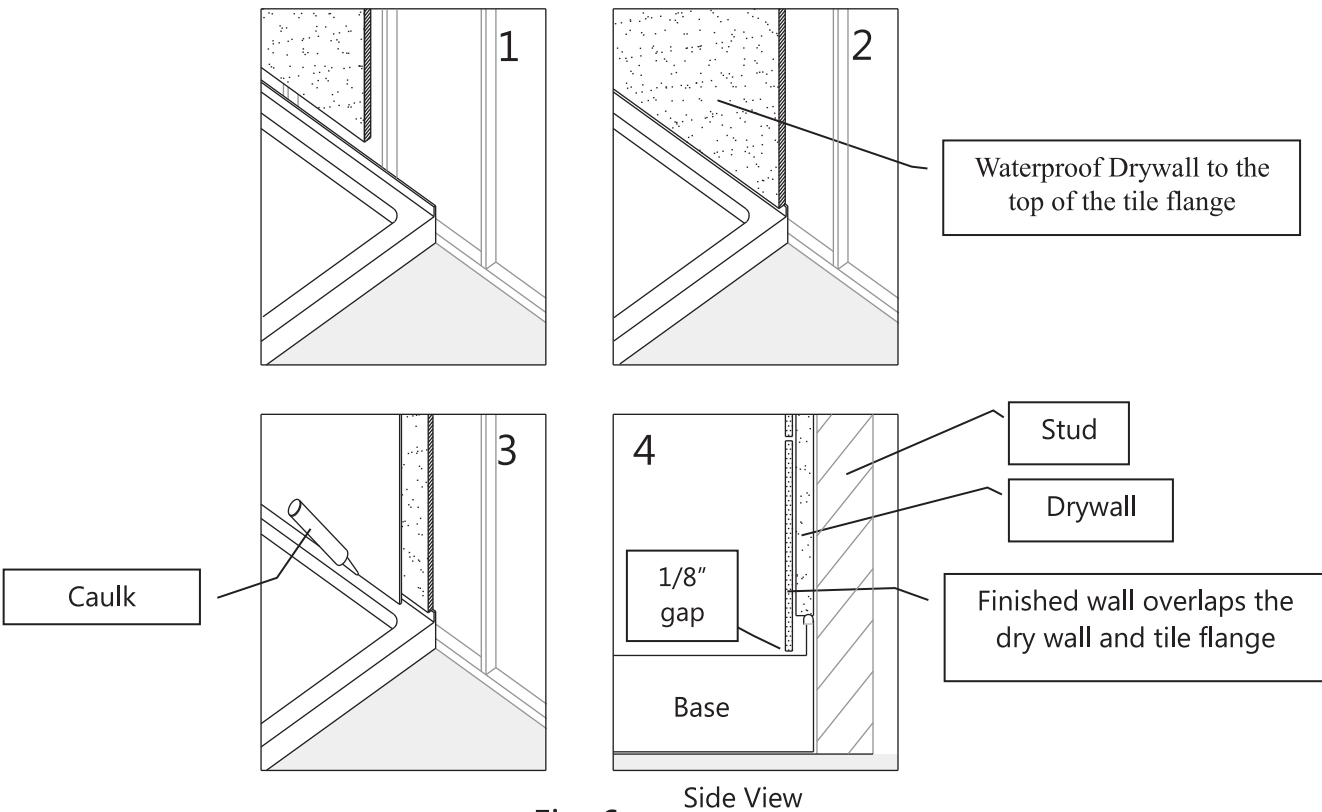

Fig. 6
- Put the tiles (or other finishing wall material) over the drywall leaving a 1/8" gap between the bottom of the tile and the splash rim of the shower tray. Use caulk to fill that gap. (Fig 6)